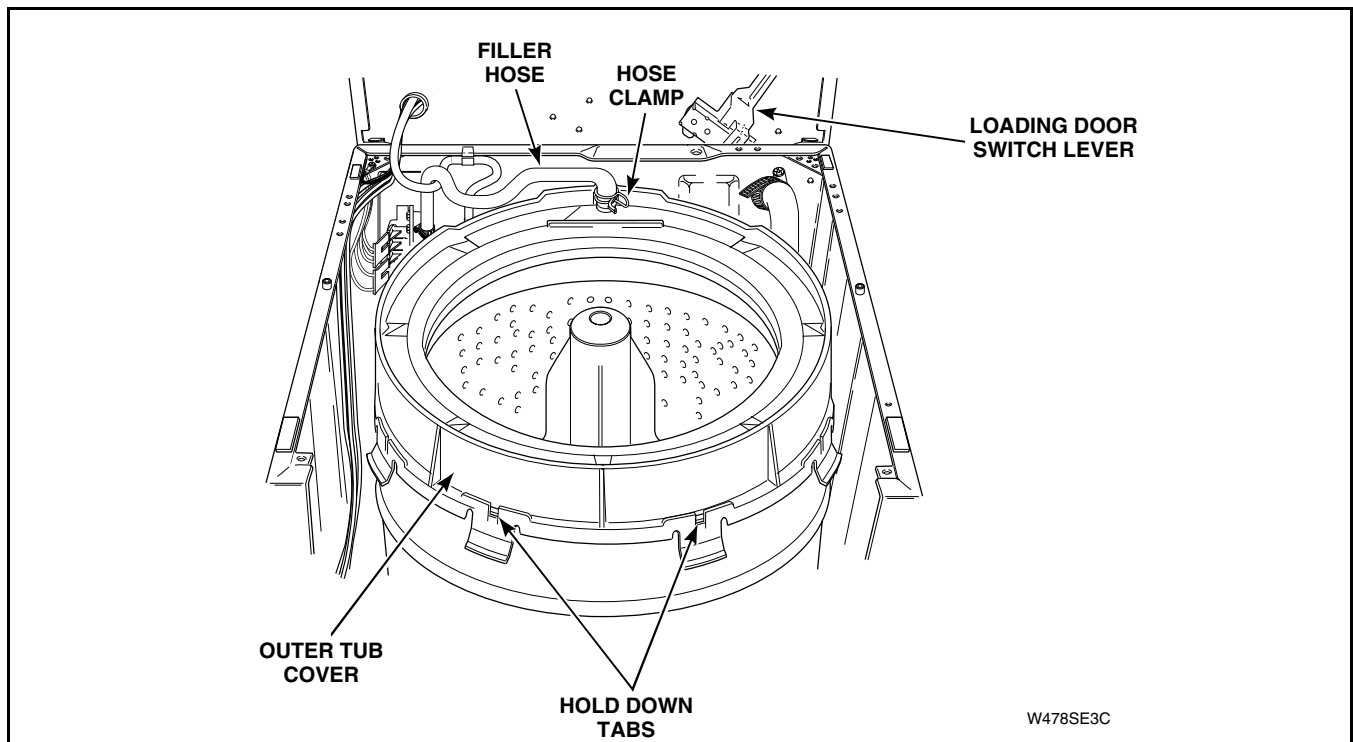

Figure 46
- h. Loosen hose clamp and remove filler hose from outer tub cover. Refer to *Figure 46*.
NOTE: When installing filler hose, white line on hose must point toward front of washer. Refer to *Figure 46*.